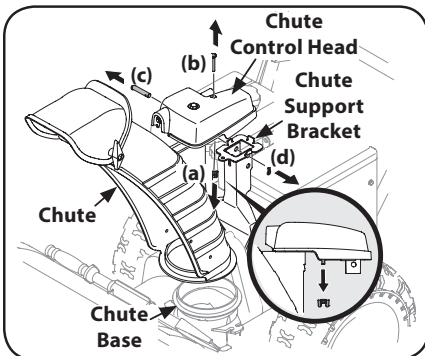

Figure 2-17
1. Remove wing nut (a) and hex screw (b) from chute control head and clevis pin (c) and cotter pin (d) from chute support bracket. Position chute assembly (forward-facing) over chute base. See Figure 2-17.